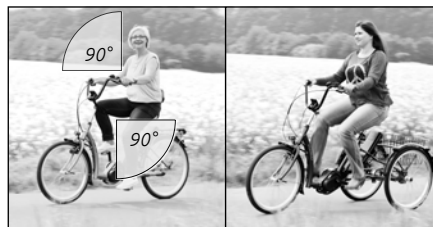

Fig.:3
- When one pedal is up, the knee angle of your upper leg and the arm angle are 90°. Your lower leg is slightly bent (*see "Fig.:3"; left*).
- When one pedal is at the front, your knee is above the axle of the front pedal (*see "Fig.:3"; right*).